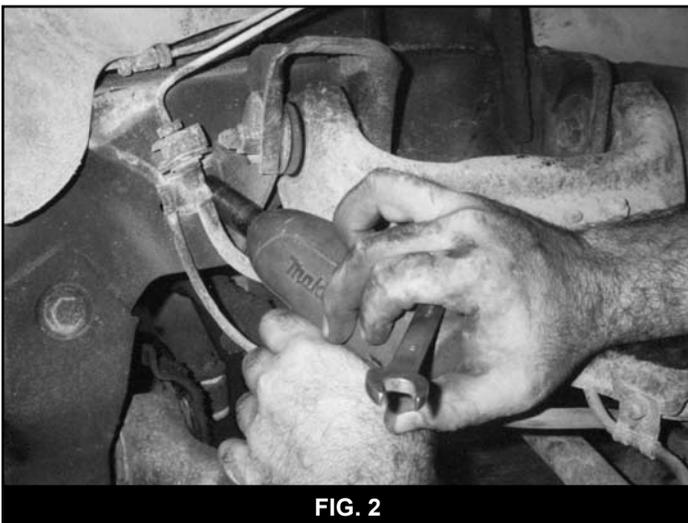

FIG. 2
9. Disconnect the brake line and ABS lead from the upper control arm and retain fasteners. Unplug and dislodge the ABS lead from the frame. (Fig. 2)